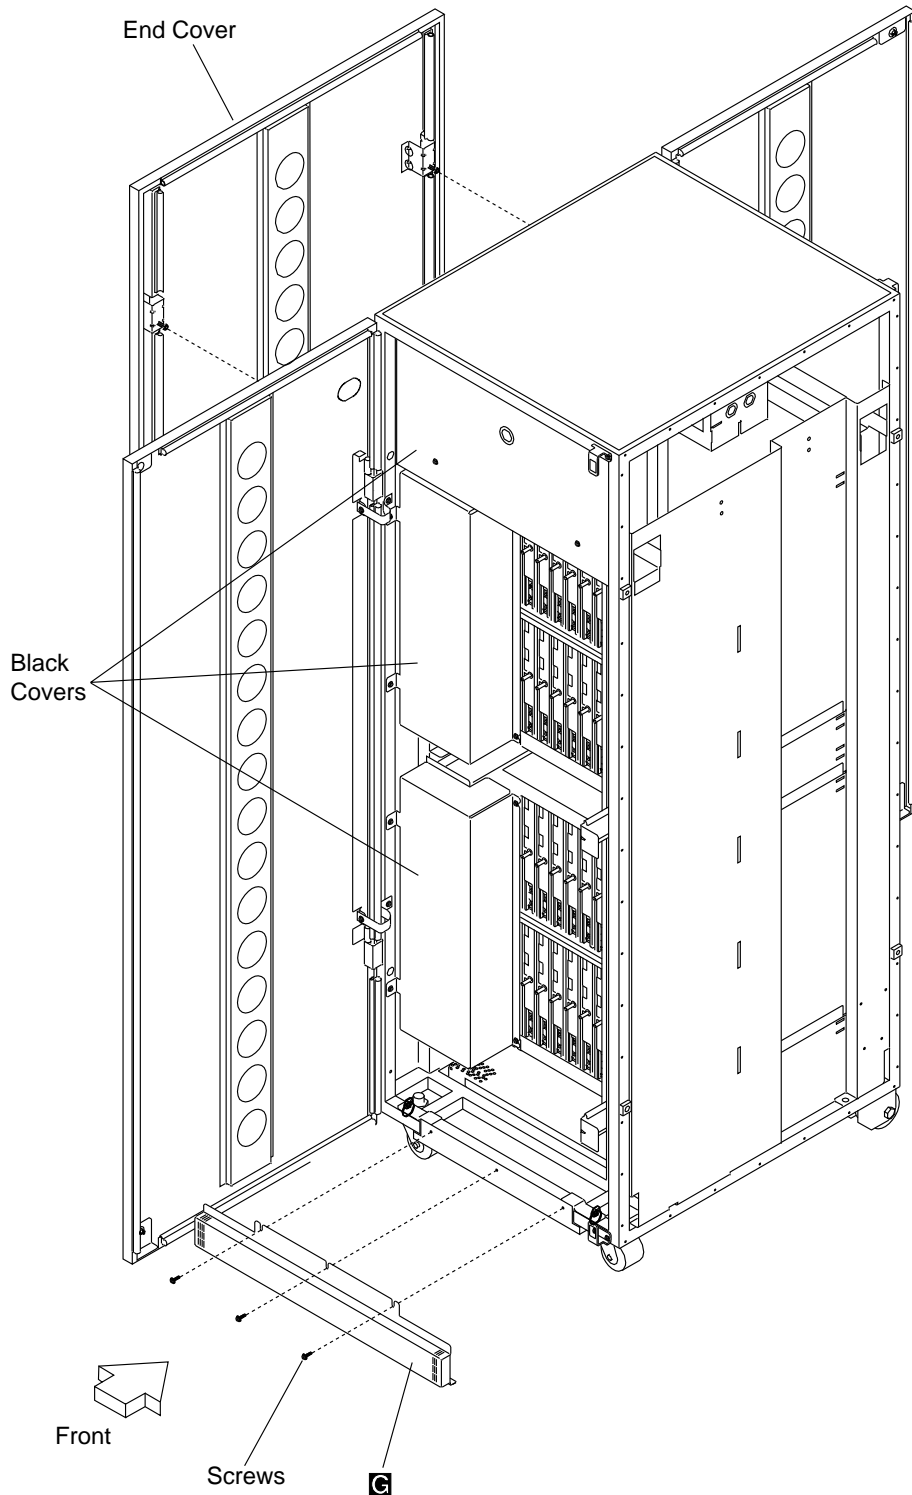
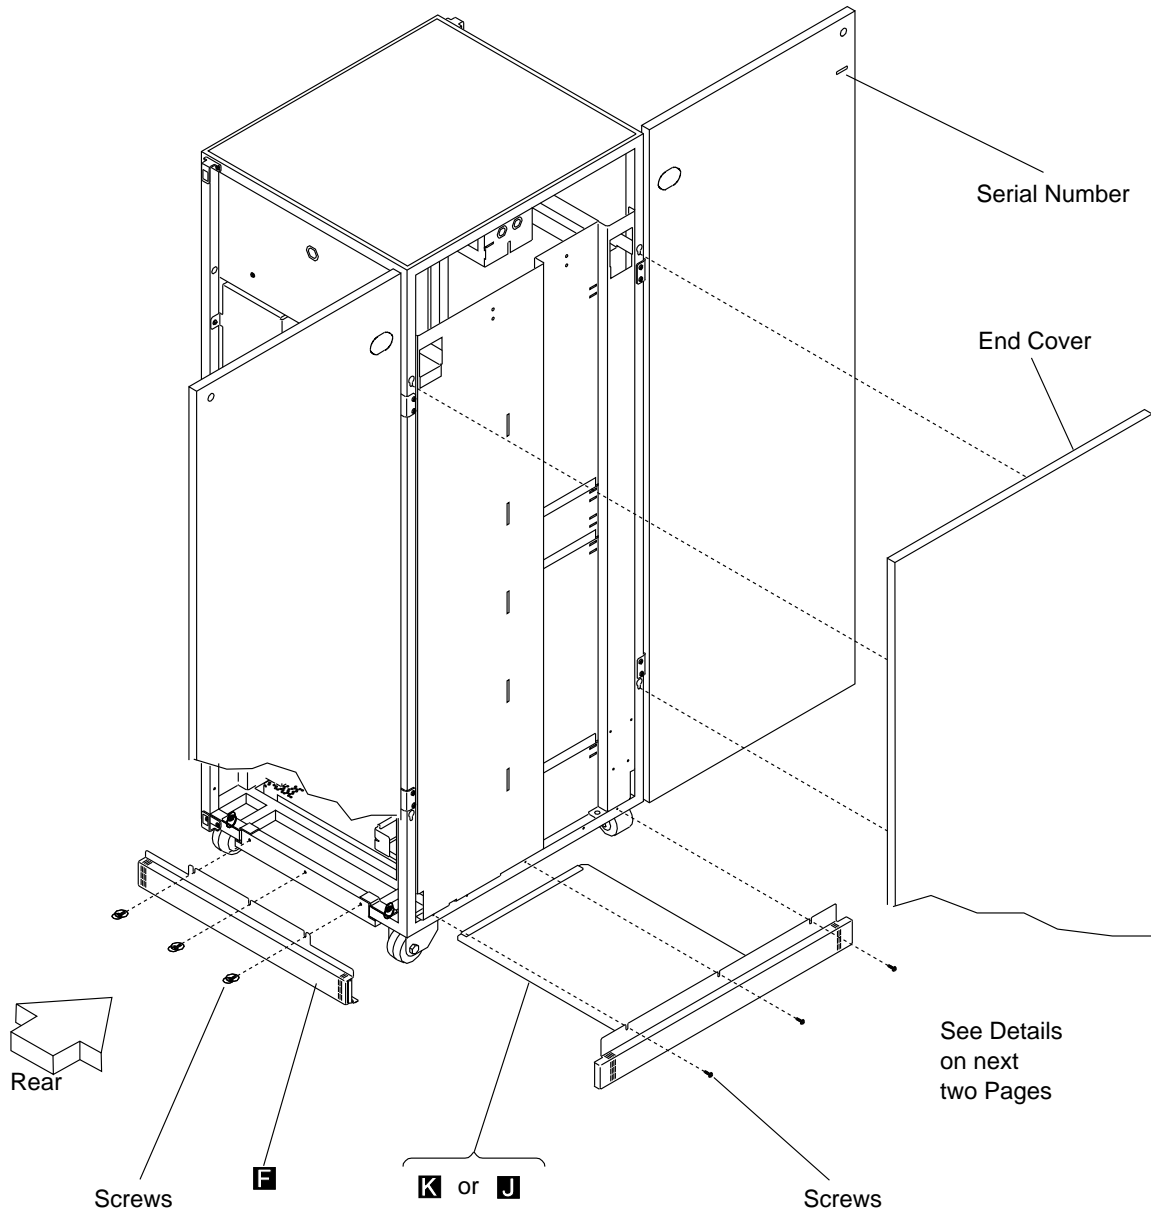

Figure 6-5. Ground Bracket on a 3746-L Expansion Unit (Front View)
Figure 6-6. Ground Brackets on a 3746-L Expansion Unit (Rear View)
- a. \_\_\_\_ Refer to Figure 6-5 on page 6-7 and Figure 6-6 on page 6-8, and read the text at the top of the pages.